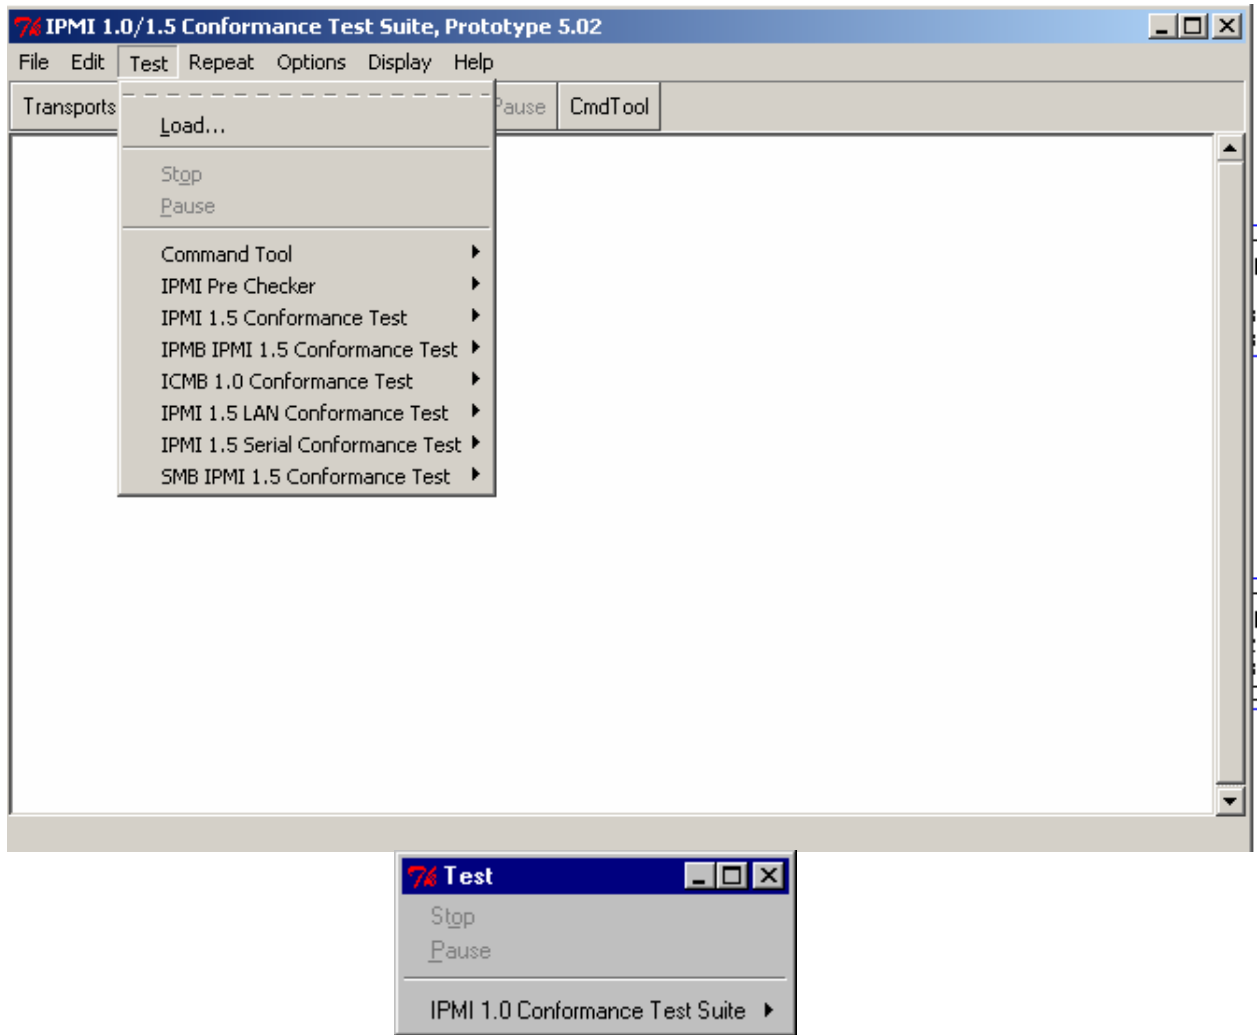

Figure 5-1. Test Drop-down Menu
1. *Click Test* in the menu bar at the top of the framework user interface window. The **Test** drop-down menu appears. Figure 5-1 shows the **Test** drop-down menu: